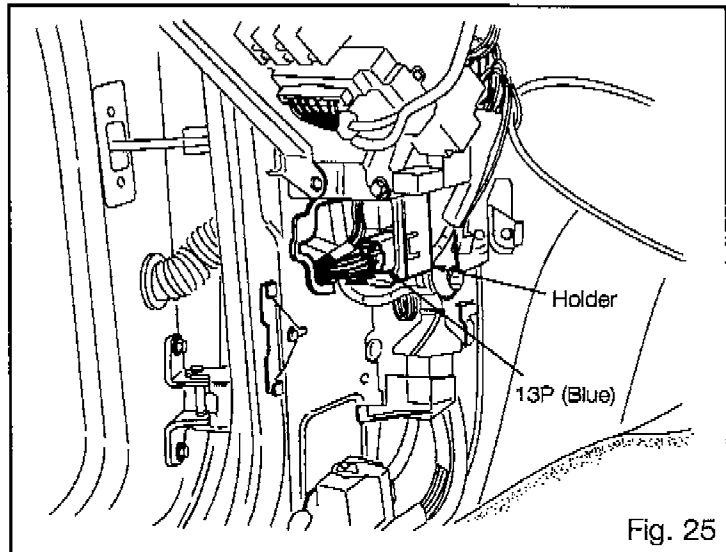

Fig. 25
- (7) Locate and disconnect the blue 13P female (terminals) connector from the connector holder mounted below J/B No. 1. Fig 25